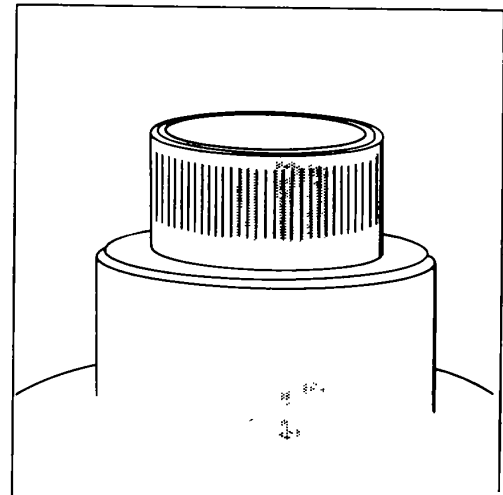

Figure 145.
20. Inspect the trunnions (7). Small nicks or burrs can be removed with 500 grit emery cloth. If galling or scoring can be felt with the fingernail, the trunnion should be discarded. See Fig. 145.